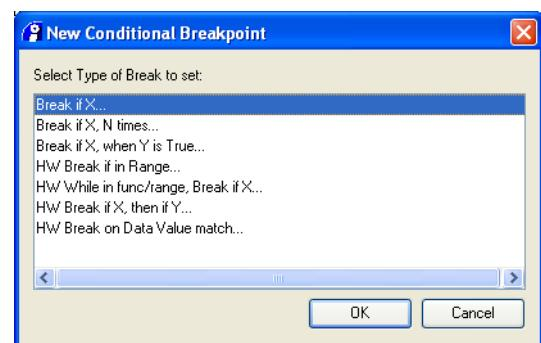

Figure 11-20 Breakpoint type selection dialog box
4. Drag the item and drop it onto the Break/Tracepoints view. The breakpoint type selection dialog box is displayed. Figure 11-20 shows an example: